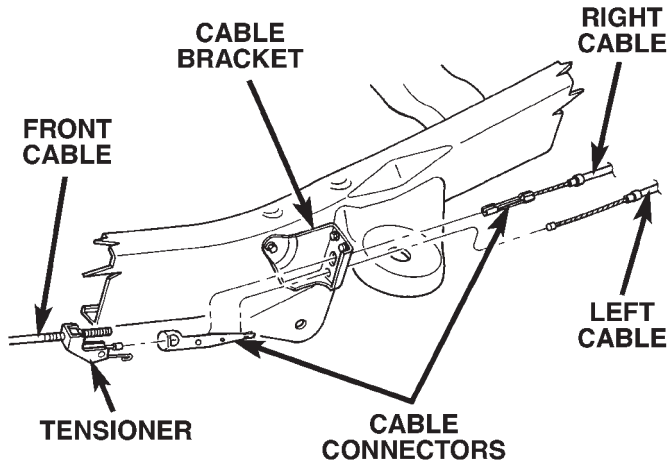
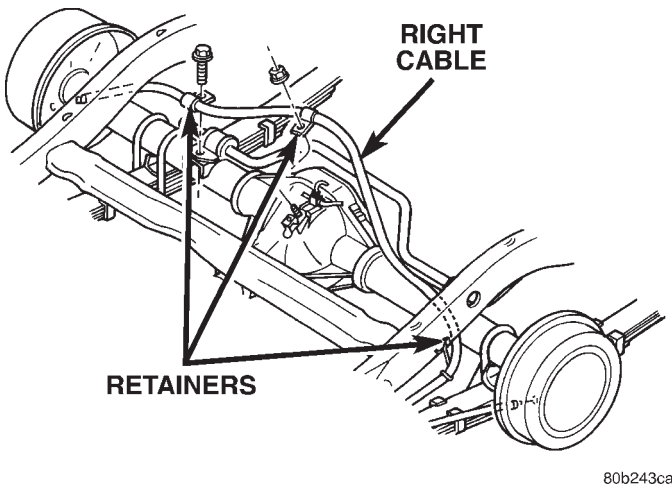

Fig. 32 Cable Connectors
Fig. 33 Cable Retainers
- (1) Raise and support the vehicle.
- (2) Remove the rear wheel and tire assemblies.
- (3) Loosen tensioner adjuster nut.
- (4) Remove the right cable from the tension rod and pull the cable housing through the left cable connector (Fig. 32).
- (5) Remove the left cable connector.
- (6) Pull both cables through the cable bracket.
- (7) Remove the right cable mounting retainers (Fig. 33).
- (8) Remove the brake drums.
- (9) Disconnect the each cable from park brake lever.
- (10) Compress tabs on each cable housing retainer at the brake support plate.
- (11) Remove the cables from the brake support plates.